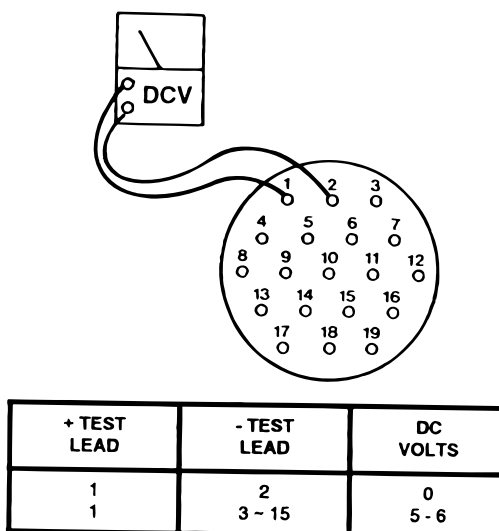

Figure 6-5. Table Base Connector
3. Use a DC voltmeter 10V scale and measure the following pins located in the 19 pin table base connector. See figure 6-5.
3. Using a DC voltmeter, measure the voltage between pin 1(+) and pins 4 through 15(-) of the table base connector. See figure 6-5. Meter should read 5-6 volts.